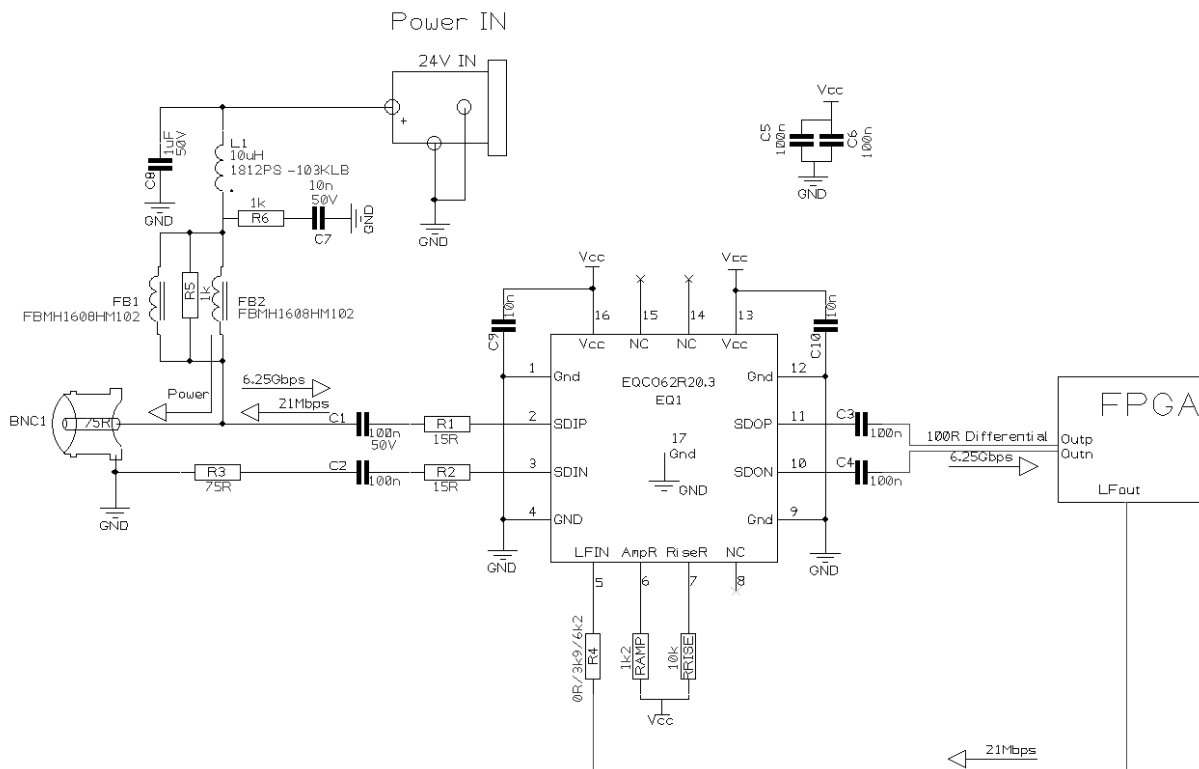

Figure 6: EQCO62R20.3 typical application circuit
Figure 6 illustrates a typical schematic implementation:
**Important Guidance Note:** Using the EQCO62X20 chipset at its full purpose, i.e. including low speed uplink and power-supply transmission it is important not to disturb the RF-performance of the high speed downlink channel. Implementing the circuit of Figure 6 with a different PCB layout will in first instance not deliver full data-sheet performance. The simplest way of meeting optimal performance (including jitter and return-loss requirements) is to precisely follow the component and layout recommendations. Note that at multi-Gigabit speeds, using "equivalent" components or small PCB layout changes (even moving a via) can have significant detrimental effects.